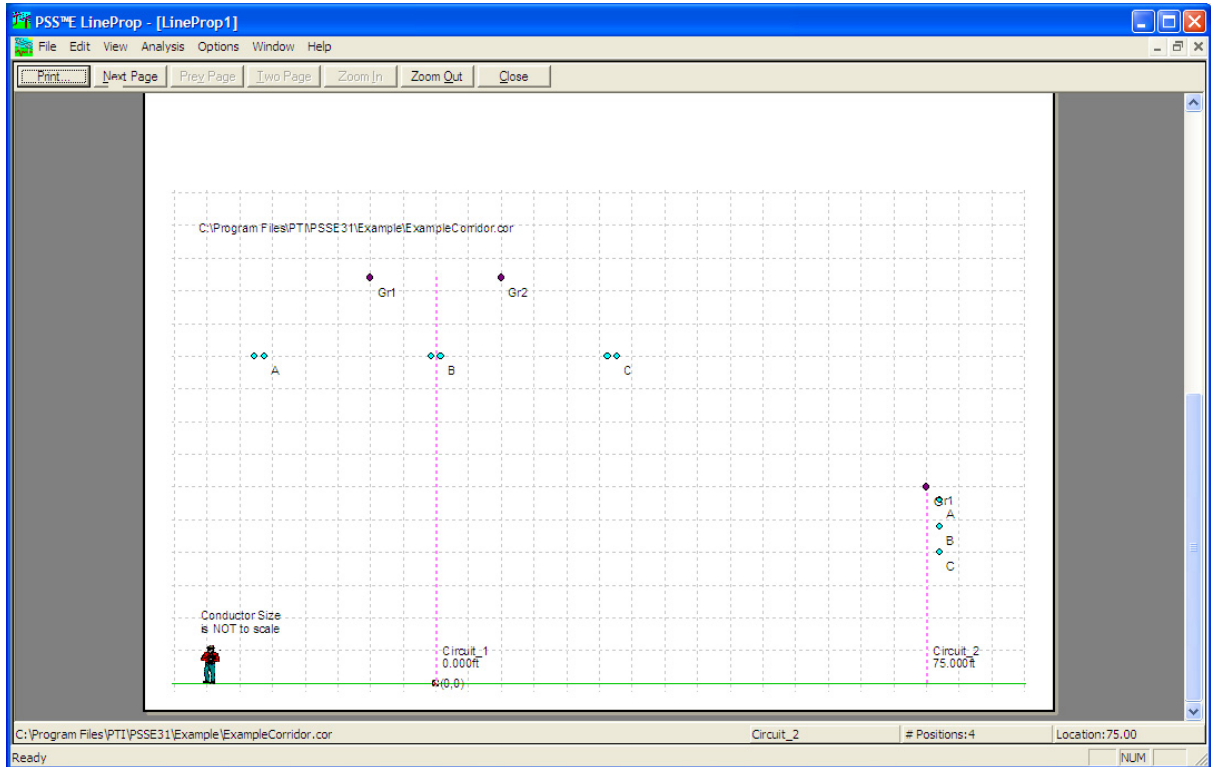

Figure 1-20. Print Preview Screen
2. If **Print Preview** is selected, the corridor diagram will be displayed on the computer screen as shown in Figure 1-20. Within this window you can: